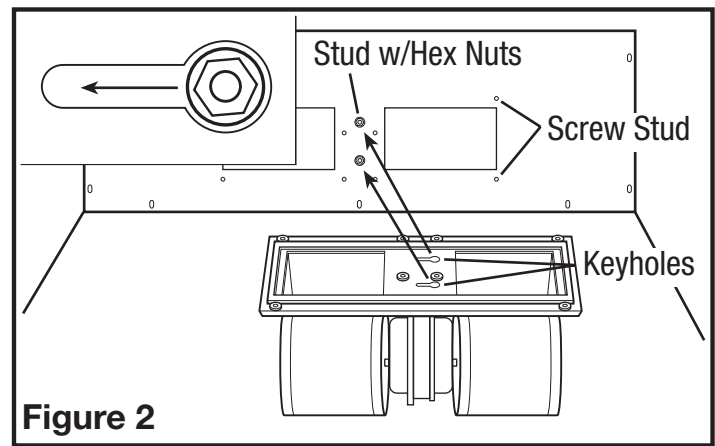

Figure 2
2. Lift blower up into the hood canopy and slide the keyhole slots in the motor mounting flange over the two studs of the hood. Slide the motor into place and tighten the hex nuts on the mounting stud while lining up the 8 holes in the motor mounting flange to the 8 screw studs of the hood (**Figure 2**).
3. Lift blower up into the hood canopy and slide the keyhole slots in the blower mounting flange over the two studs of the hood. Slide the blower into place and tighten the hex nuts on the mounting stud while lining up the 8 holes in the blower mounting flange to the 8 screw studs of the hood (**Figure 2**).